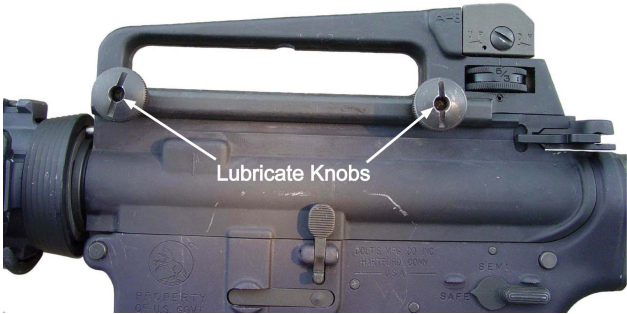

Figure 3-65. Lubricate Carrying Handle
- (1) Apply one or two drops of lubricant to both threaded studs.
- (2) Lightly lubricate the clamping bar and both round nuts. Refer to Figure 3-65.